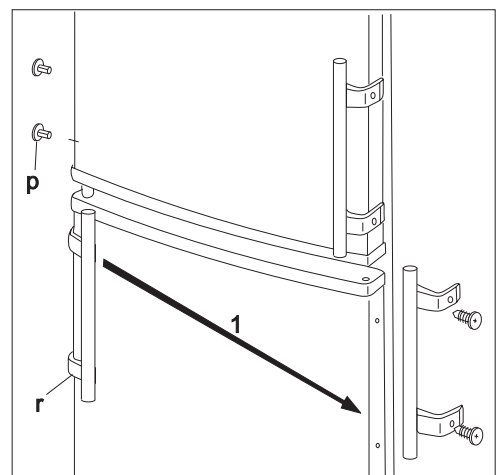

fig. 6.
24. Put over the handles (r) on the other side and put the plastic blanking pins (p) supplied in the plastic bag of this instruction book into the holes set free. (fig. 6)